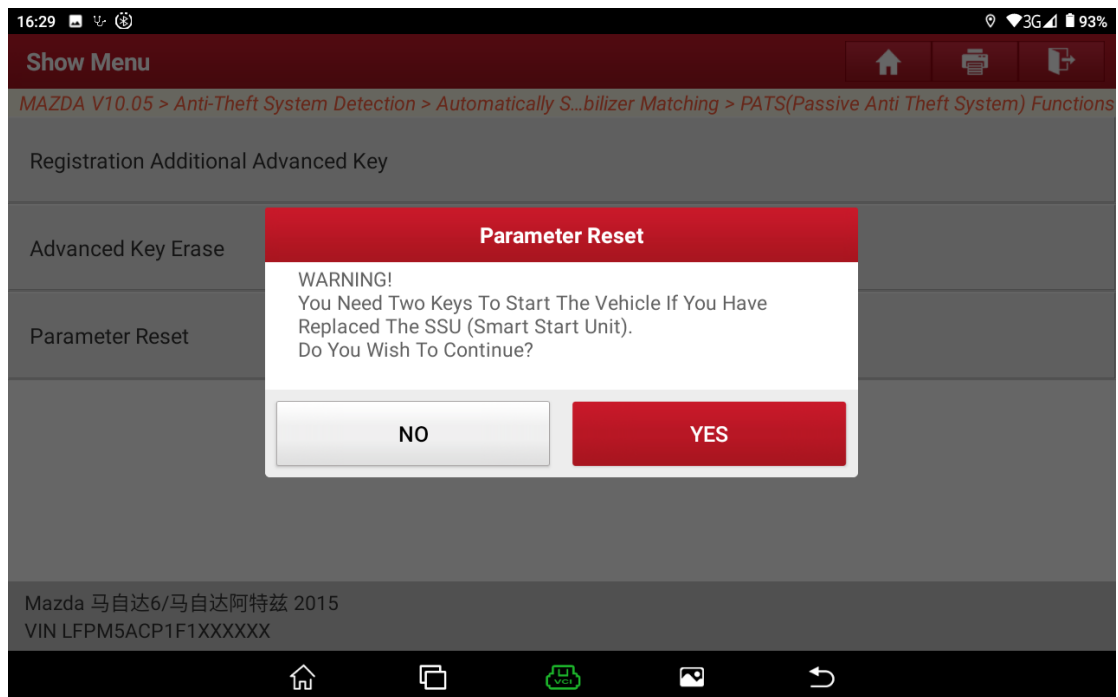

Figure 12
10. Two keys are required to perform this function. Choose [No] to exit the function, or choose [Yes] to access the next step. See Figure 12.